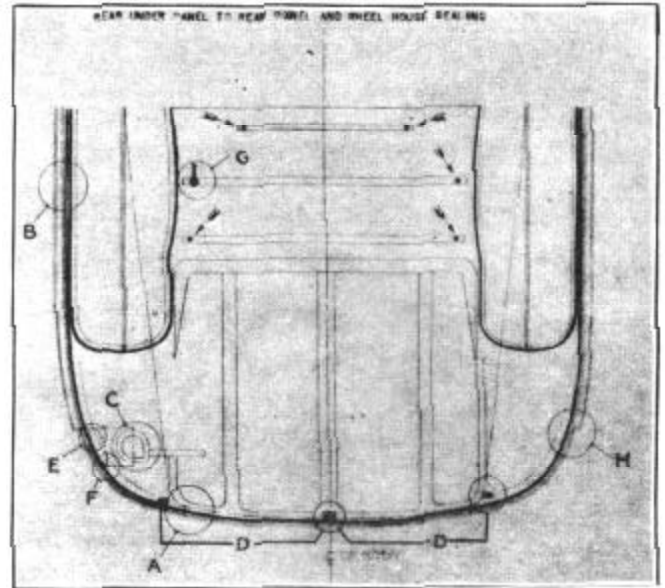
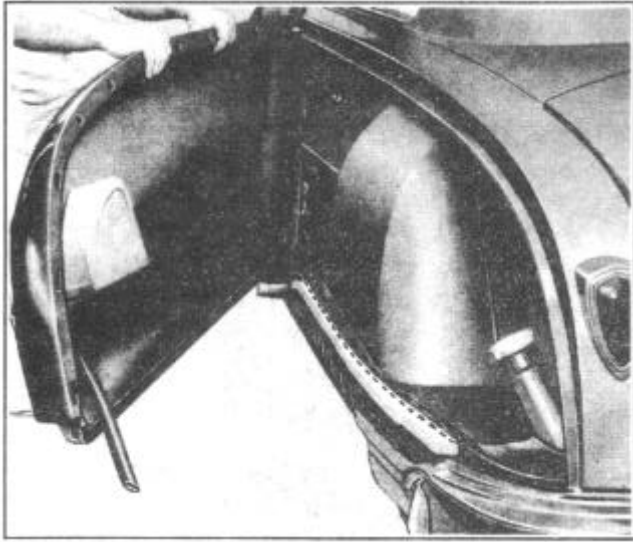
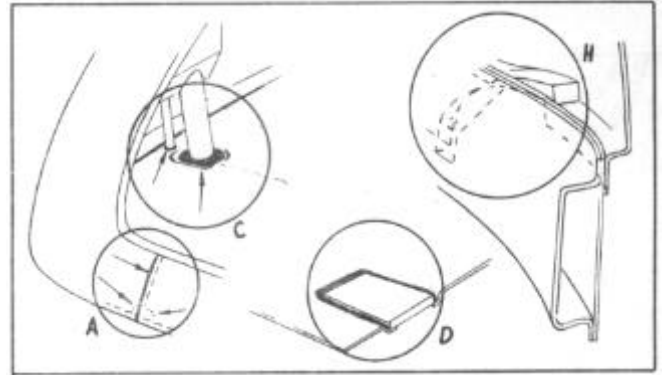

FIGURE 131
FIGURE 132
FIGURE 134
In Figure 131, we show a general view of the body rear section looking through the rear compartment door opening towards front of car. Flying arrows indicate holes which are closed by rubber plugs. These holes should be checked to be sure the plugs are in place and well seated in the floor panel. Circle "A", Figures 131 and 134, show a coach joint at the juncture of the quarter panel and the rear frame. This vertical joint should be sealed with Dolphinite sealer worked into the joint from the outside of panel. The inside lower corner
Circle "B", Figures 131 and 133, indicate the attachment of the wheelhouse and fender to frame side member. The sponge rubber between the fender and frame is cemented with rubber cement direct to the frame and must be level with the top of the frame flange throughout its entire length. Place a two inch piece of Mystik tape over entire length of the fender rubber seal, covering the seam between rubber seal and frame as shown in dotted lines, Figure 132. If the rubber is not level with the frame, it will expose the top of the lightening holes in the outside frame face and permit dust leaks through the holes and above the seals. The position of the rear end of the sponge rubber seal and the frame rear side member rear hole filler is shown at circle (H), Figure 134, and also in Figure 132.
Circles (C) and (E), Figures 131, 133 and 134, cover the gas tank filler neck and gas tank filler door opening. The arrows indicate points which should be sealed with body sealer. These points are around the gasoline tank filler neck and rubber grommet seal and also between the rubber seal and under panel. Sealer should also be applied to the gas filler neck drain hose at the underbody panel at point indicated by an arrow.
Circle (D), Figures 131 and 134, show the hole on the body centerline and one at each side at rear panel. These holes are
Circle (E), Figures 131 and 133, shows the filler compartment. All the weld joints in the filler compartment should be sealed. Particular attention should be paid to the end of the front and rear vertical joints where the compartment joins the fender. It is also necessary to seal completely around the joint of the filler floor panel and the rear fender. If filler neck grommet does not fit tightly around the filler neck, it should also be sealed with body sealer.
Sealer should be used to seal the gasoline gauge wire and grommet shown at (G), Figures 131 and 133.